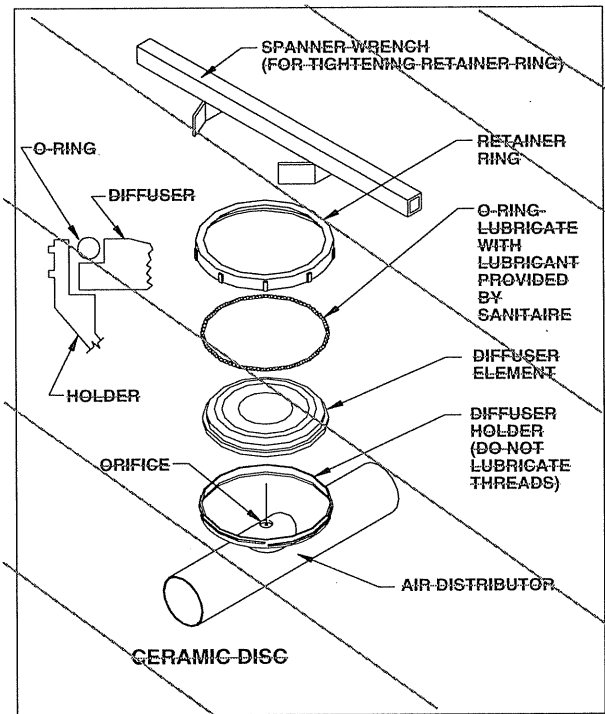

Figure 33
3. Place the diffuser "O" ring in the slot or void between the diffuser holder vertical wall and the raised portion of the diffuser disc. See Figure 33.